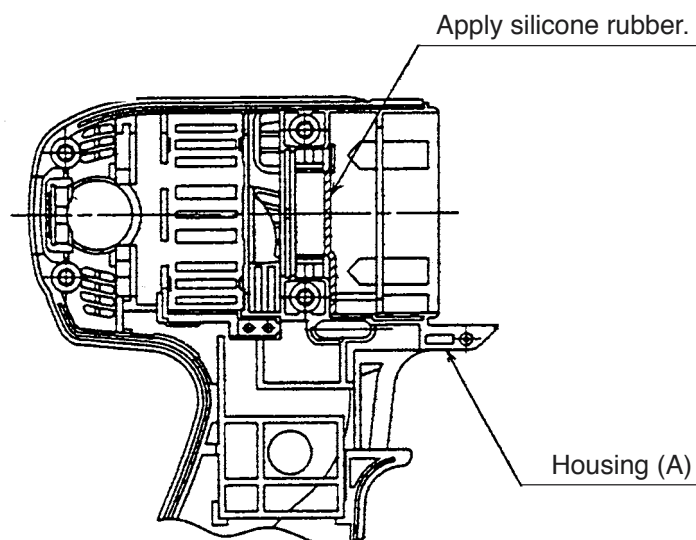

Fig. 14
- (c) Before mounting the parts to housing (A), apply silicone rubber (ThreeBond 1211) to the area illustrated in Fig. 14.